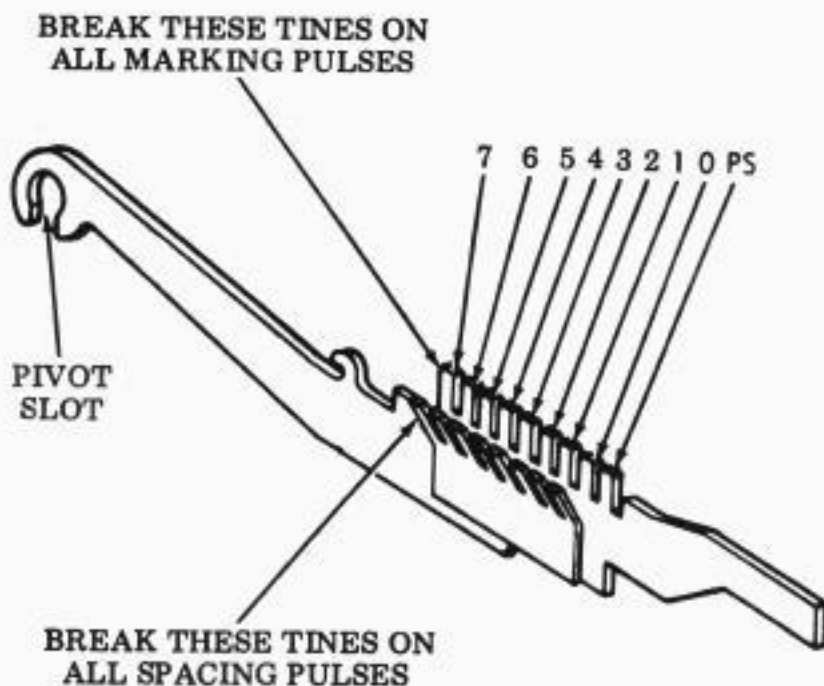

Figure 1 - 180801 Universal Function Lever
2.02 The tines of the 180801 function lever (Figure 1) are numbered from right to left as follows: PS, 0, 1, 2, 3, 4, 5, 6, 7.